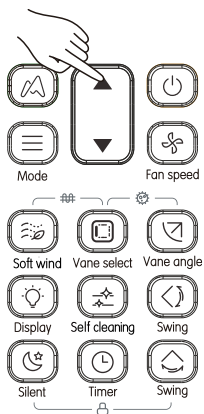

Figure 4.4
② Press  and  to adjust the parameter code;
③ Press  to enter the parameter setting interface, then press the "" and "" keys to adjust the parameter value, refer to the advanced parameter setting list to select the setting parameters. (see Figure 4.4);